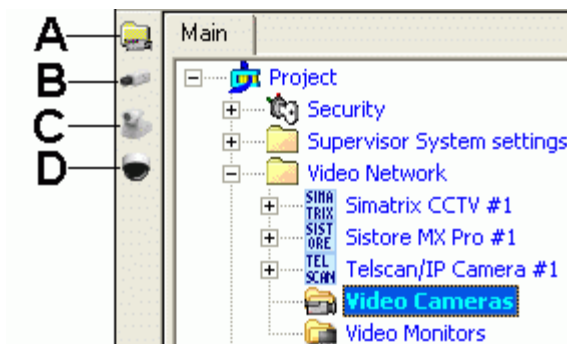

Fig 6 Adding video cameras
2. In the left-hand bar (Fig 6), select the type: